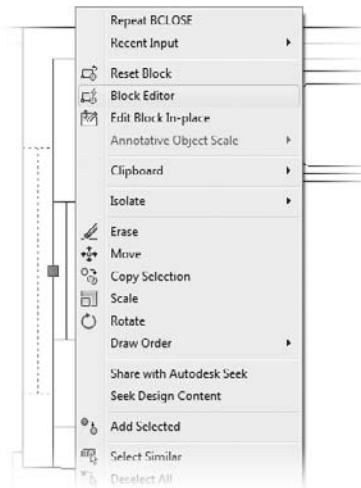

FIGURE 7.44 Accessing the Block Editor from the context menu
2. Select the A-GLAZ block inserted over the stove, right-click to display the context menu and select Block Editor, as shown in Figure 7.44.